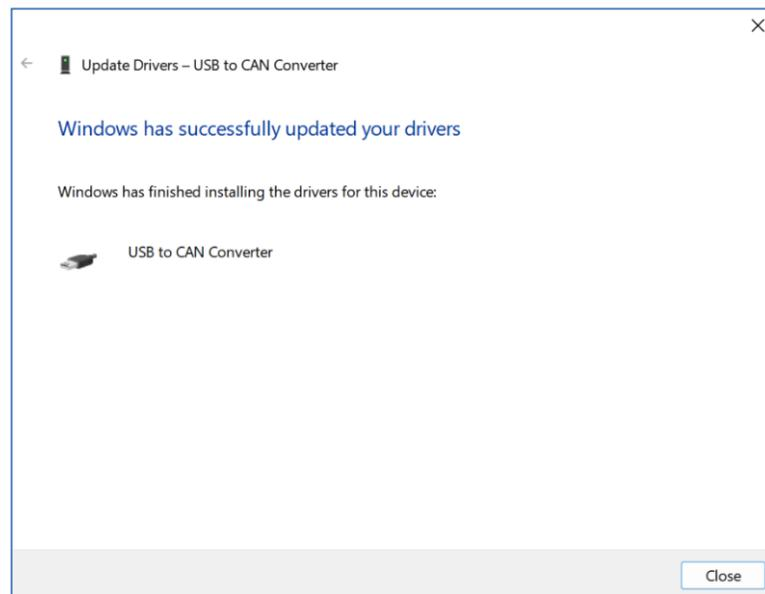

Figure 9. Driver Installation. Successful Installation Message
7. Press the *Next* button to install the driver. The following message should appear, telling the user that the driver installation was successful, see Figure 9.